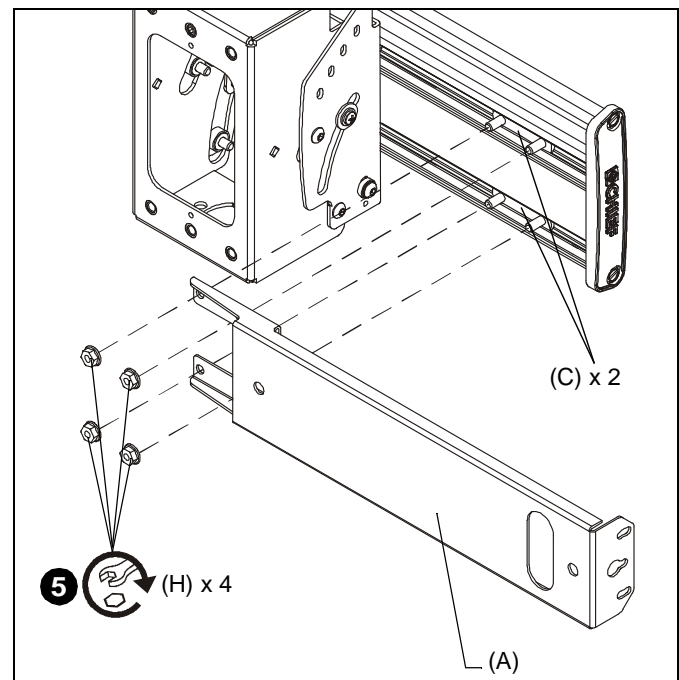

Figure 3
5. Loosely attach sliding bracket (A) to T-slot studs (C) using two 1/4-20 flange nuts (H) on each T-slot stud. (See Figure 3)